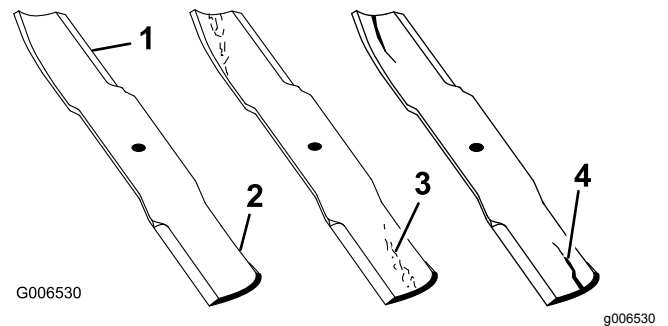

Figure 96
1. Inspect the cutting edges (Figure 96). If the edges are not sharp or have nicks, remove and sharpen the blades. Refer to Sharpening the Blades (page 67).
2. Inspect the blades, especially the curved area (Figure 96). If you notice any damage, wear, or a slot forming in this area (Figure 96), immediately install a new blade.